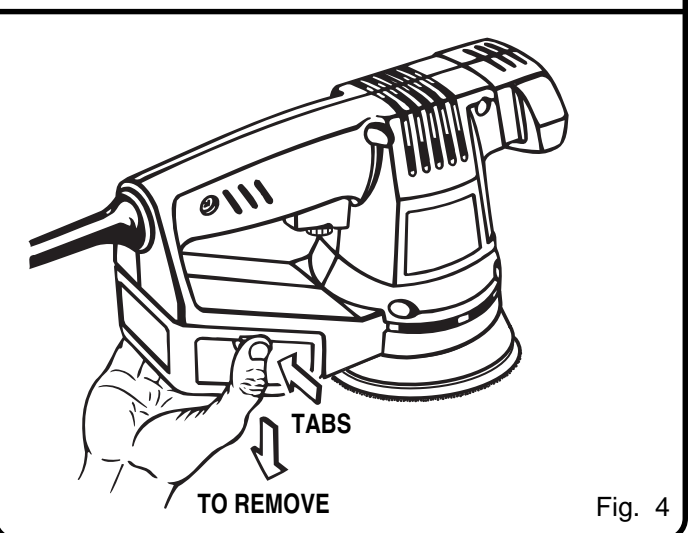

Fig. 4
See Figures 4 and 5.
See Figure 4.
- Slide dust box down and lift from sander as shown by the arrows in figure 4.